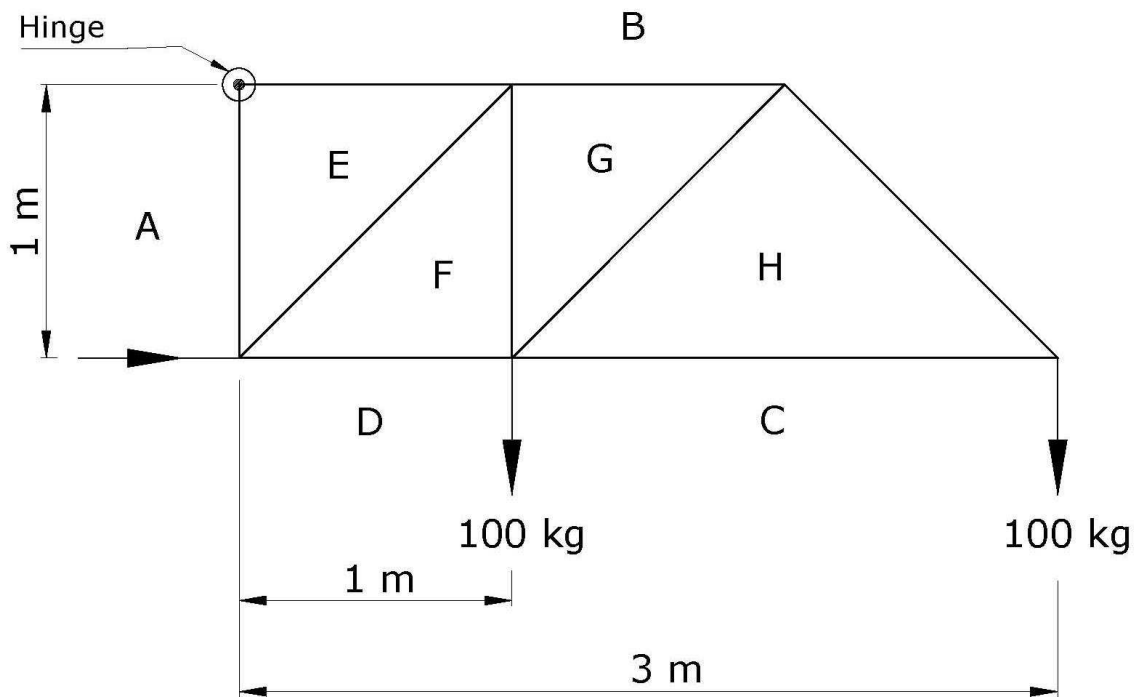

Figure 5
5. Figure 5 shows a framework consisting of nine jointed light rods hinged to a fixed point at the top left-hand corner of the frame. The framework is kept in position by a horizontal reaction at the left-hand bottom corner. The framework is loaded with 100 kg each at the point indicated in Figure 5.
- a) Copy the space diagram and use the scale indicated. (4)
- i) the stresses in the rods, stating whether they are in tension or in compression; (8)
- ii) the magnitude, direction and angle with the H.P. of the reaction at the hinge; (4)
- iii) the magnitude of the reaction at the left-hand bottom corner. (4)